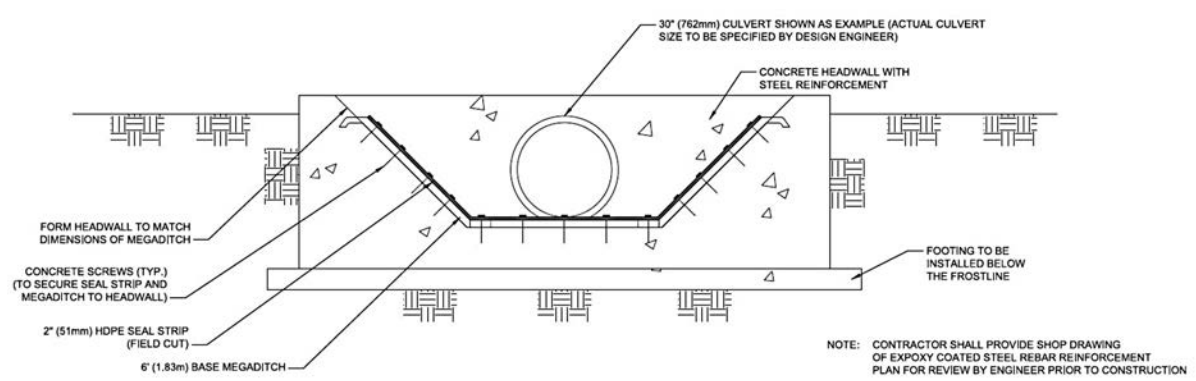

Figure 20
- Concrete cutoff wall that can be used with or without the culvert, see **Figure 20**.